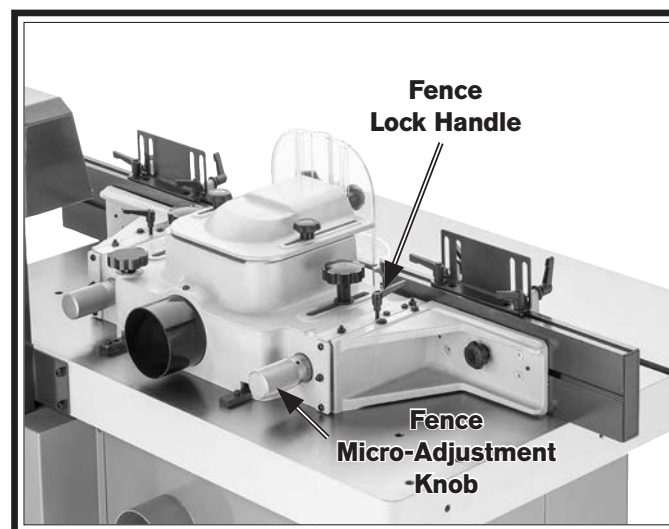

Figure 89. Fence adjustment components.
3. Unlock both fence lock handles and turn micro-adjustment knobs fully counter-clockwise (see Figure 89).